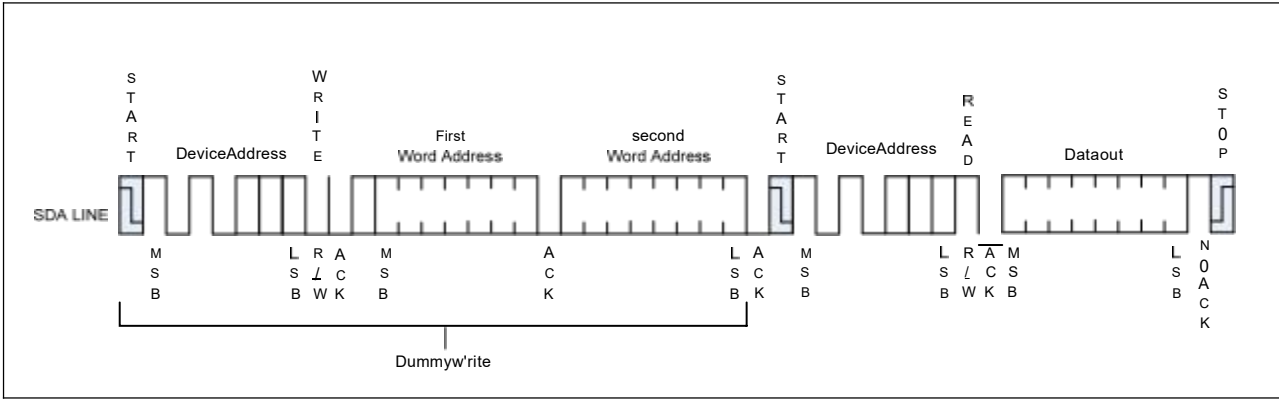

Figure9 Random Read
**RANDOM READ:** A random read requires a “dummy” byte write sequence to load in the data word address. Once the device address word and data word address are clocked in and acknowledged by the EEPROM, the microcontroller must generate another start condition. The microcontroller now initiates a Current Address Read by sending a device address with the read/write select bit high. The EEPROM acknowledges the device address and serially clocks out the data word. The microcontroller does not respond with a “0” but does generate a following stop condition (see to Figure 9).